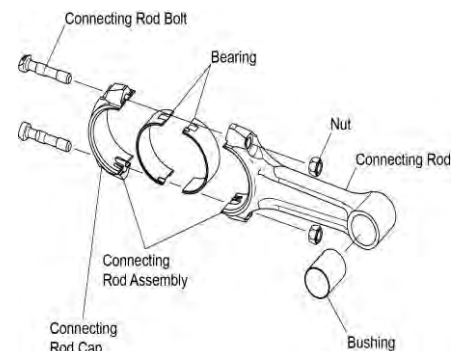

Figure 1
- (1) Remove and discard the two nuts (Figure 1) and the two bolts that attach the connecting rod cap to the connecting rod.
- (2) Remove the connecting rod cap and connecting rod; keep them together, apply a label to identify the throw position of the connecting rod for reference on assembly.
- (3) Remove and discard the two connecting rod bearings.